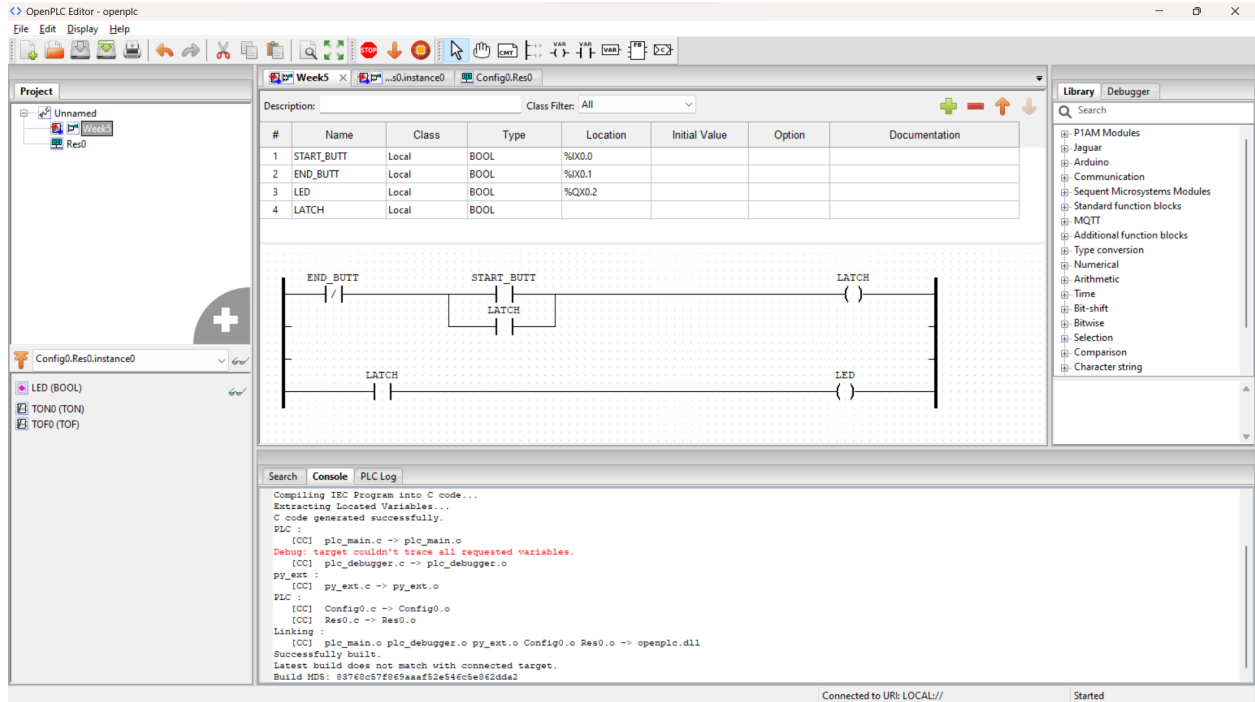

Figure 5.1: Ladder diagram to latch an LED output
1. Create the ladder diagram shown in Fig. 5.1